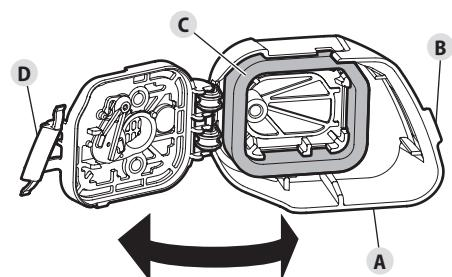

Fig. 19
1. Open the air filter cover (Fig. 19-A): Hook your fingers behind the cover tab (Fig. 19-B). To unlock the air filter cover, pull it to the left and away from the engine. This may require a firm pull. Swing the air filter cover to the right.
2. Remove the air filter (Fig. 19-C) from inside the air filter cover.
7. Close the air filter cover: swing the air filter cover to the left and press it closed until the lock tab (Fig. 19-D) snaps into place.